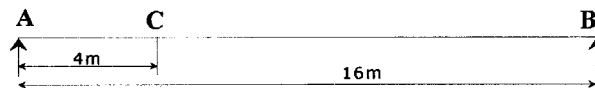

Figure 3
- (b) Determine absolute maximum bending moment for beam shown in fig 3. A train of loading passes from left to right with 60 kN load leading. [10]